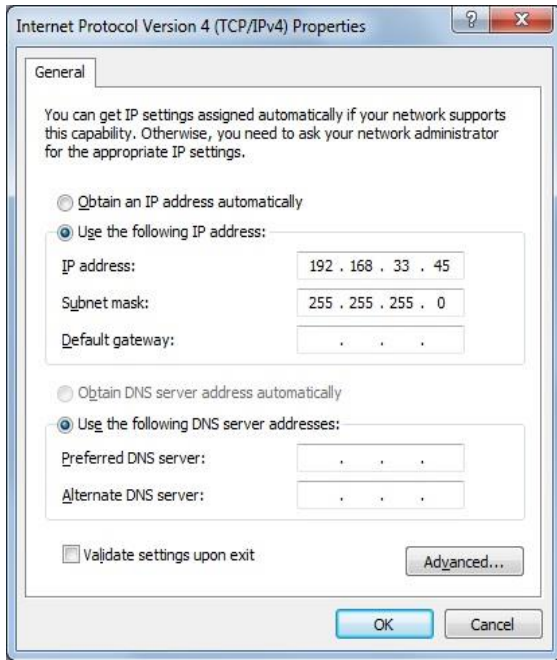

Figure 34 – Windows: TCP / IP connection network card
4. Enter the IP address and subnet mask as shown below in the configuration mask shown in Figure 34, then confirm and close screens.